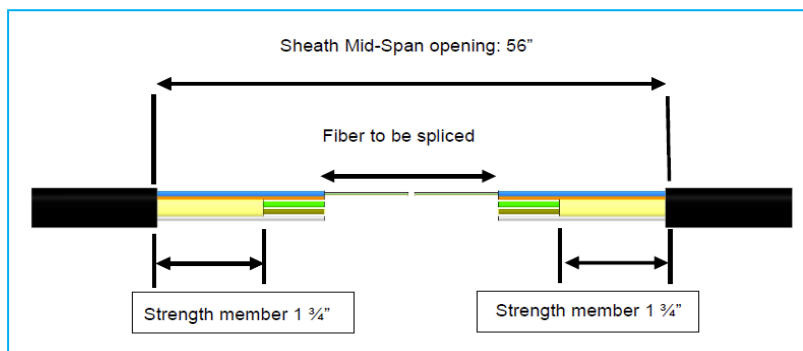

Figure 8
5.2.1.1 Prepare mid-span opening: remove **56"** of outer sheath. See Figure 8.
5.2.1.2 Cut strength member(s) **1 3/4"** from end of sheath openings. See Figure 8.